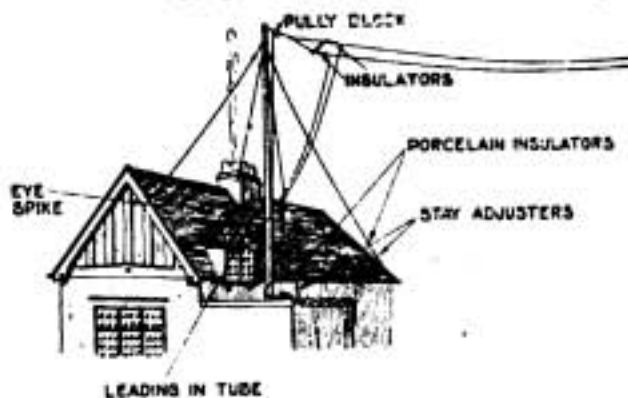
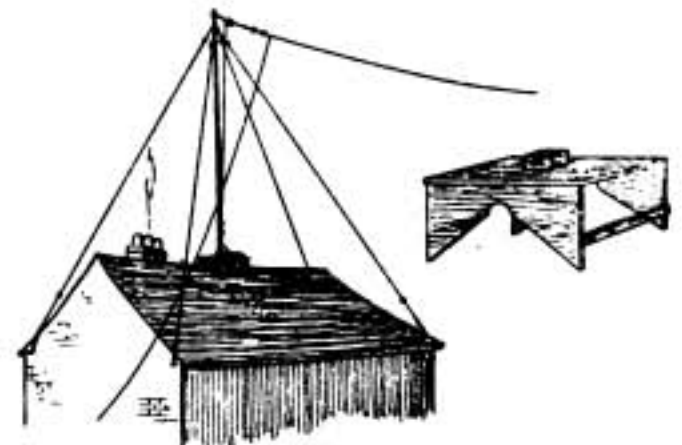

Fig. 3.
Fig. 4.
the Eiffel Tower is under the direction of General Ferrié and Commandant Julien. Fig. 4, which is reproduced by kind permission of *La Nature*, represents a group at the Eiffel Tower on an occasion when the famous French singer, Madame Yvonne Printemps, broadcasted a recital by wireless telephone.
*Fig. 4.—A Wireless Concert at the Eiffel Tower. From left to right · The famous singer, Mme. Yvonne Printemps, M. Sacha Guitry, M. Laffont, Under Secretary of State, and General Ferrié.*
If one end of the aerial is to be a house-top it is better to terminate it on a small mast. If the roof is flat, the fixing of the mast is quite simple (Fig. 3), but if it is pointed, a chair must be made to rest across the ridge, as shown in Fig. 4. This chair must be strongly made to the design shown in Fig. 4, and should be held together with screws. Support should not be given to it by the top of the ridge, but by the sloping faces of the slates. A piece of thick felt or sacking placed across the ridge and extended down either side will prevent the chair from damaging the slates. This will also assist in keeping the chair in position, as vibration, due to the swinging of the aerial, and accompanied